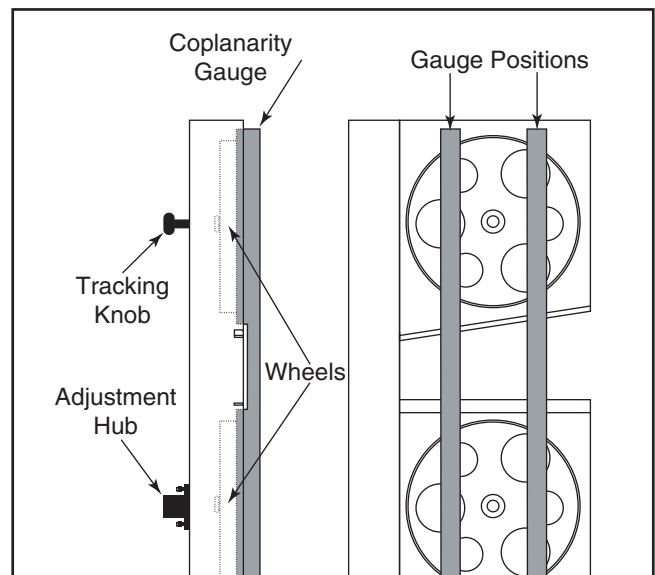

Figure 64. Checking for coplanarity.
4. Place your coplanarity gauge up against both wheels in the positions shown in **Figure 64**.